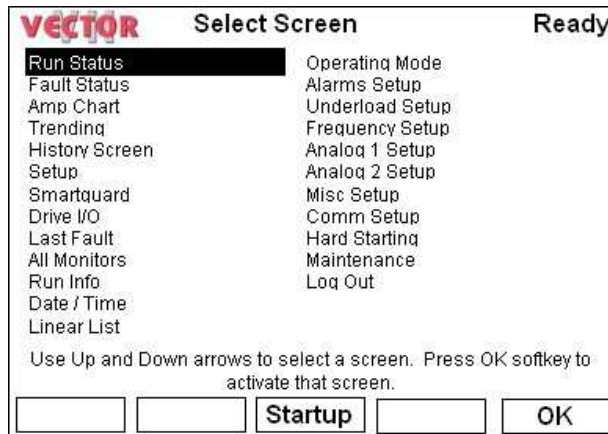

Figure 3
- Intuitive Menu Select Screen. (See Figure 3)